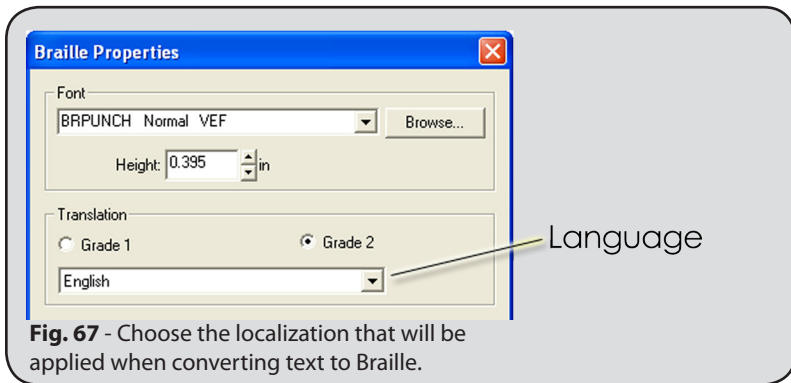

Fig. 67 - Choose the localization that will be applied when converting text to Braille.
2. The **Braille Properties** dialog will open (Fig. 67).